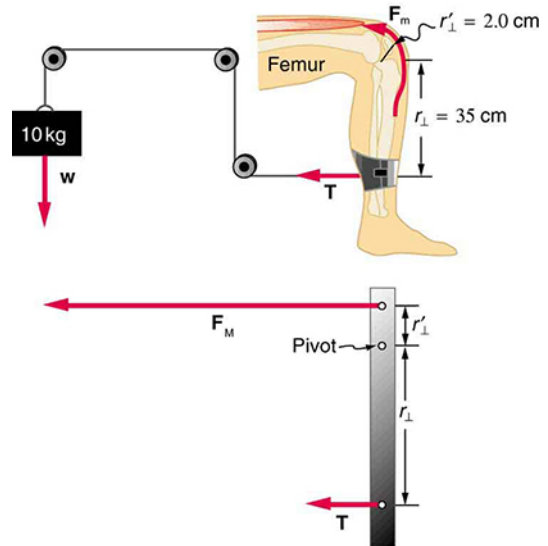

FIGURE 9.37 A mass is connected by pulleys and wires to the ankle in this exercise device.
29. A device for exercising the upper leg muscle is shown in Figure 9.37, together with a schematic representation of an equivalent lever system. Calculate the force exerted by the upper leg muscle to lift the mass at a constant speed. Explicitly show how you follow the steps in the Problem-Solving Strategy for static equilibrium in Applications of Statistics, Including Problem-Solving Strategies.